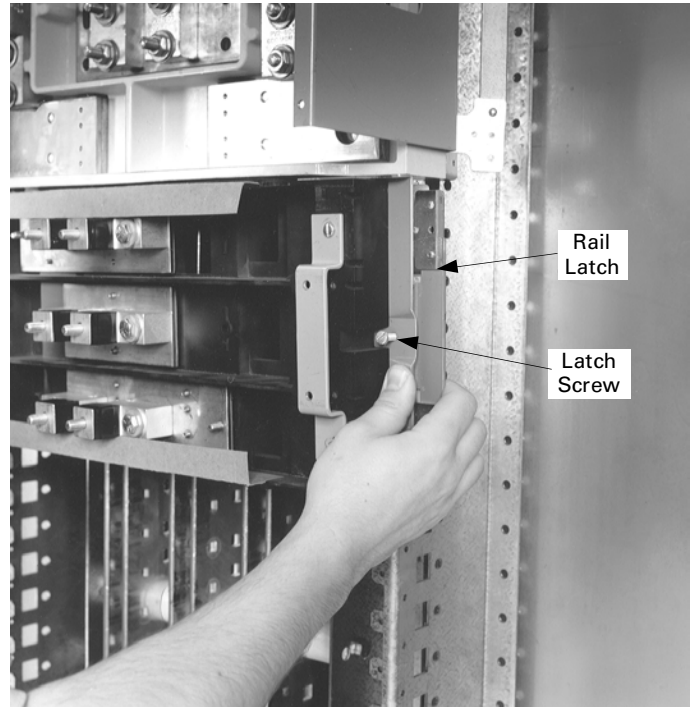

Figure 2. Preparing the circuit breaker module for installation.
- 2. Prepare the breaker module.** Loosen the latch lock screws and fully retract the rail latches. Line up the guide fingers on both ends of the module with the notches in the panelboard interior rails, as shown in Figure 2.